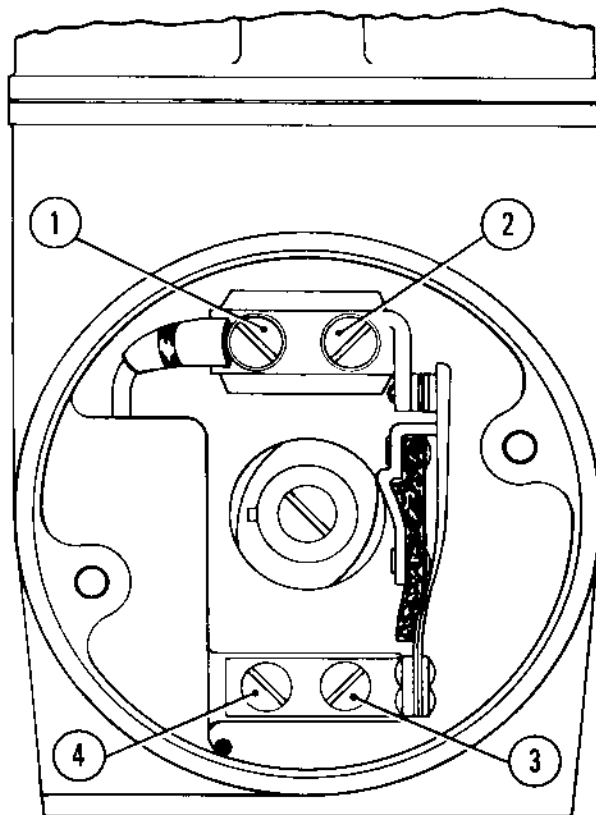

Figure 43. Breaker Mechanism.
(3) If the contacts do not open at the proper time, loosen the two screws, A and B (Fig. 43), which hold the adjustable contact assembly in place and move the adjustable contact assembly to right or left until the two contacts separate when the timing marks are opposite each other. It should be noted that the contact points are not adjusted for any fixed clearance between them.
(4) If the contacts do not line up properly, the location of the contact and cam follower assembly can be adjusted by loosening the two screws, C and D (Fig. 43), which secure the contact and cam follower assembly to the housing. The hole for screw D is slightly over-size to permit this adjustment. After retightening the screws, recheck this adjustment to insure that it is correct.
(5) Insure that the lubrication felt attached to the cam follower is soft and moist with oil. This felt supplies a very minute quantity of lubricant to the breaker cam. If oil appears on the surface when the felt is squeezed between the fingers, do not add any more oil. If the felt is dry, however, moisten with a few drops of medium bodied mineral lubricating oil, SAE 60 or equivalent. Do NOT give it all it will hold.